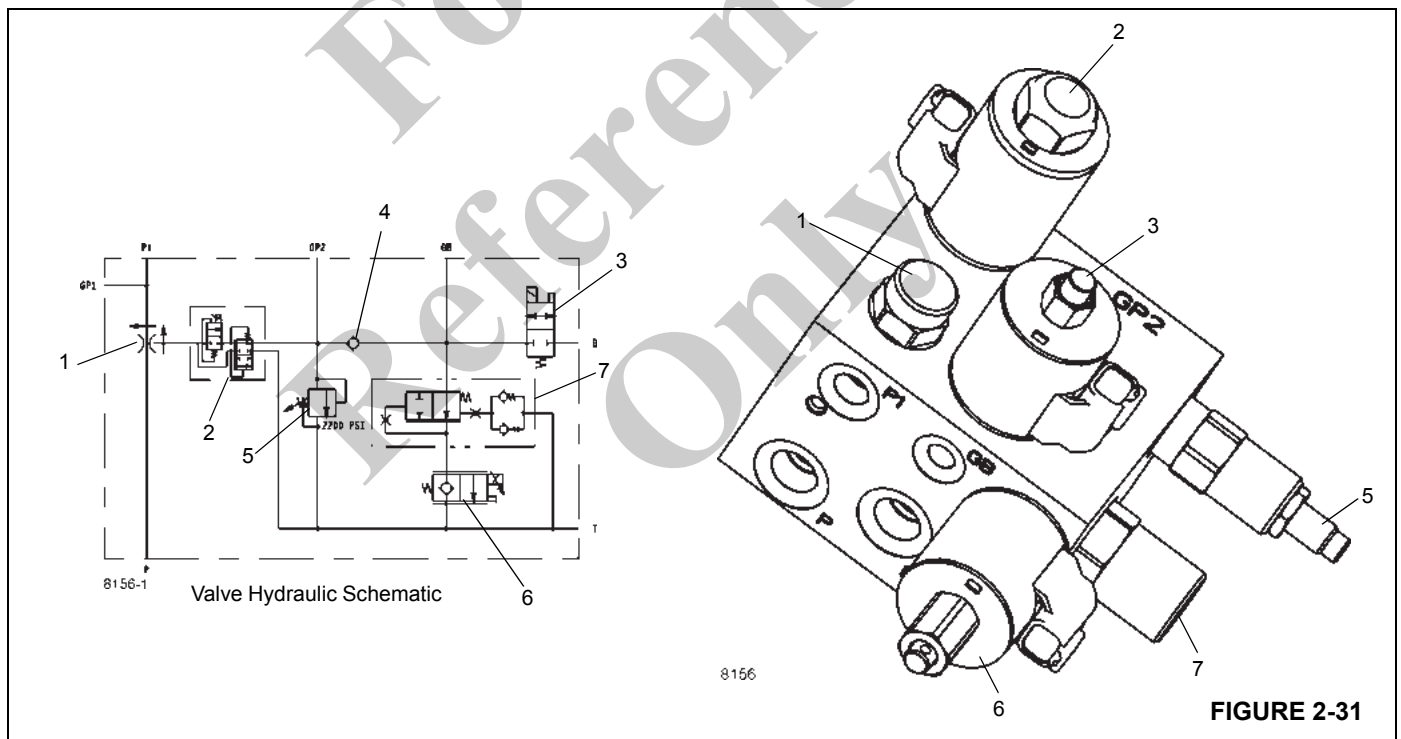

FIGURE 2-31
The Telescope Fill Tube Control Valve Manifold, located on the turntable, is controlled by the RCL. The Telescope Fill Tube Control Valve Manifold prevents the first stage (boom tele sections 2, 3, and 4) from moving when the second stage (tele section 1) is extending or retracting by maintaining oil pressure in the fill tube of the first stage. The Telescope Fill Tube Control Valve Manifold prevents the first stage from retracting as the second stage extends by first diverting oil flow it receives from the Brake Charge and CAC Fan Priority Flow Control Valve to the pressure port of the Dual Accumulator Charge Valve Manifold by way of a 4.0 gpm priority flow valve (1, Figure 2-31). Excess oil flow from the flow valve goes to a spring offset, solenoid controlled, three-way directional control valve (2) that diverts oil to tank when de-energized. Only when the second stage is extending will the RCL energize the directional control valve, which diverts oil to the first stage. This flow of oil to the